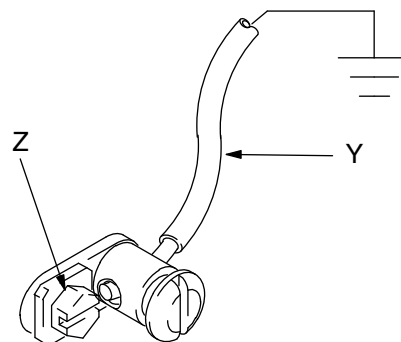

FIG. 2
Pump: use ground wire and clamp (FIG. 2). Remove the ground screw (Z) and insert through the eye of ring terminal at end of ground wire (Y). Fasten the ground screw back onto the pump and tighten securely. Connect ground clamp to a true earth ground.